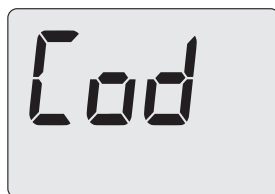

Fig. 8.33
- Scroll through the various parameters using 13 or 14 until the LCD display shows the message **Cod**, indicating entry into “parameter Cod” (Fig. 8.33), and then displays three dashes “- - -”.